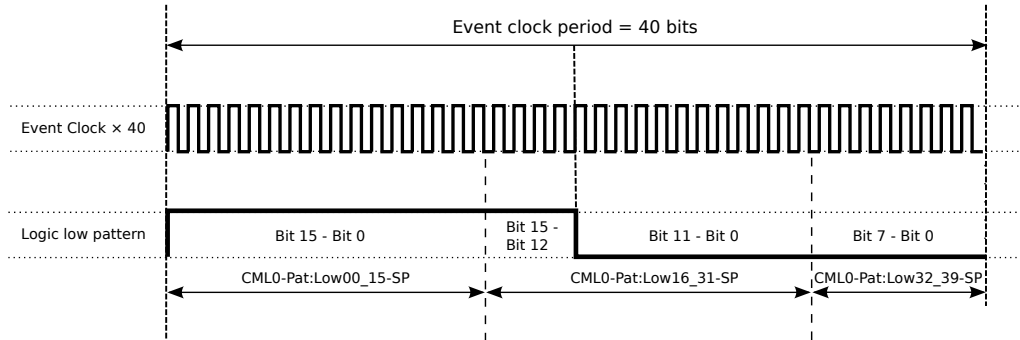

Figure 4: Generate the event clock
This tutorial demonstrates how to configure CML0 output of EVR-VME-300 to generate a clock signal, that has the same phase and frequency as the event clock. To achieve this, the **FrontUnivOut6** output source is set to **logic low** and the CML outputs are enabled. This causes the logic low pattern of the CML pattern mode to be continuously outputted. The configurable pattern, as seen in Figure 4, is 40 bits long and is sent out with a bit rate of 40 times the event clock rate. It is configured to replicate the event clock phase and frequency.
- CML0-Pat:Low00\_15-SP=0xFFFF: Set logic low pattern bits 0-15. The Figure 4 shows that the bits 15-0 must be set as follows: 1111 1111 1111 1111, which translates to 0xFFFF. Each bit represents 1/40 of the event clock period.
- CML0-Pat:Low16\_31-SP=0xF000: Set signal low pattern bits 16-31. The Figure 4 shows that the bits 15-0 must be set as follows: 1111 0000 0000 0000, which translates to 0xF000.
- CML0-Pat:Low16\_31-SP=0x0: Set signal low pattern bits 32-39, as seen in Figure 4. Note, that only bits 32-29 (lower 8 bits) can be used.